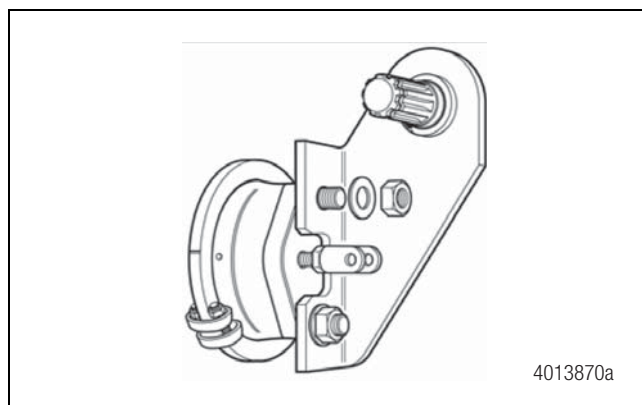

Figure 1
2. Apply the service brake several times to verify all brake chamber push rods are in their fully released position. With spring brakes, a minimum pressure of 80 psi (5.52 bar) is required in the system to ensure that the piston is fully released. Figure 1.